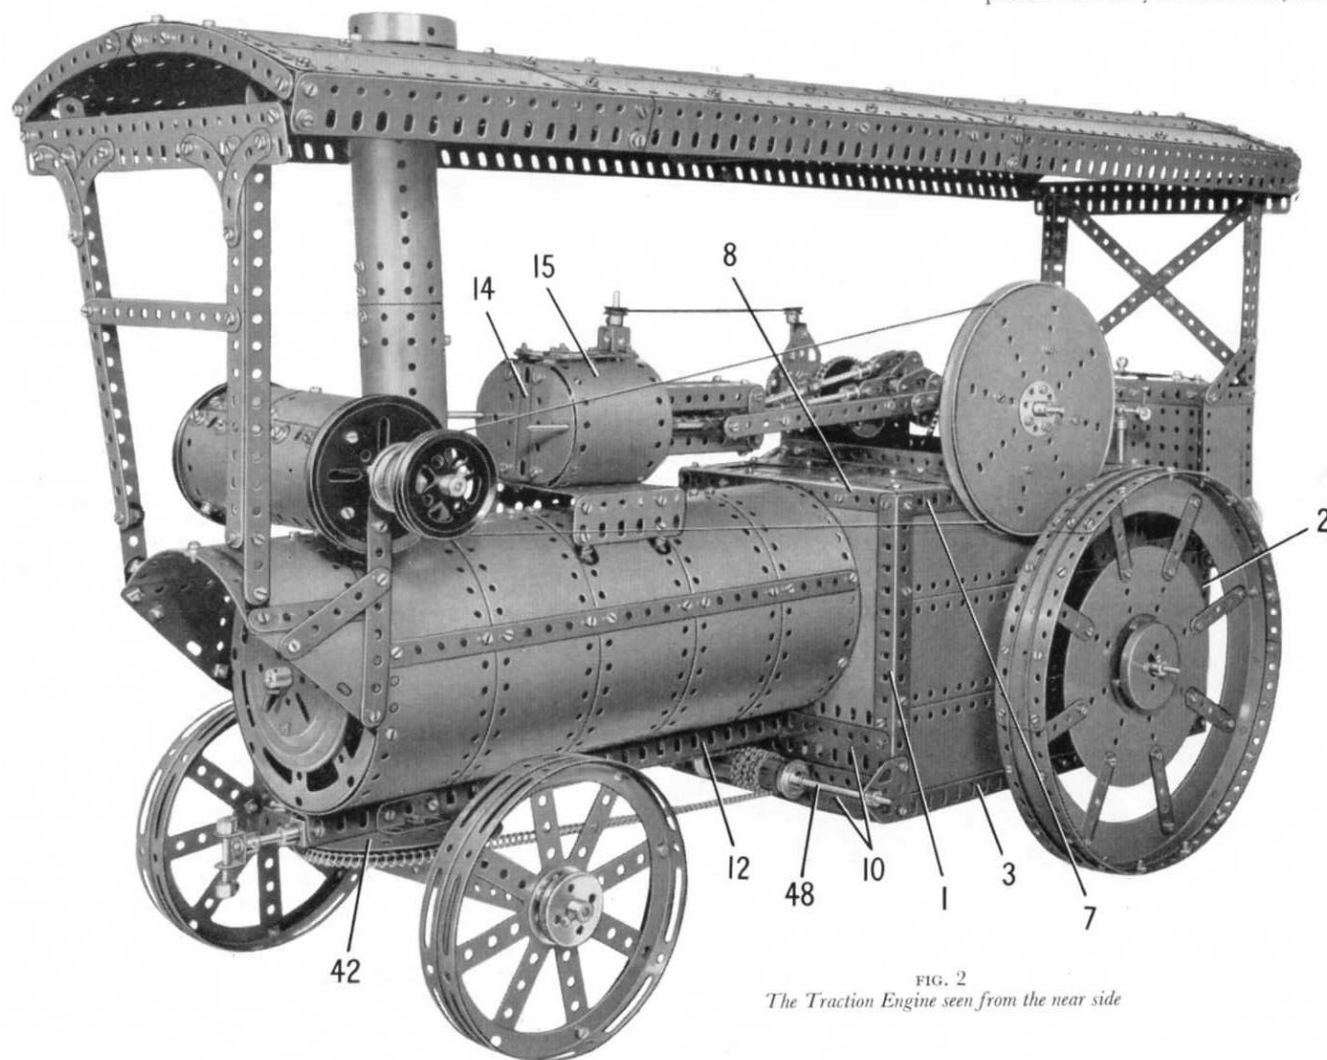

FIG. 2
The sides are connected together at the front by a  $7\frac{1}{2}$ " Angle Girder (8) (Fig. 6), and a similar Girder (9) (Fig. 4). The front is partly filled in by a  $5\frac{1}{2}$ "  $\times$   $2\frac{1}{2}$ " Flexible Plate placed vertically at each side, and by two  $7\frac{1}{2}$ " Flat Girders (10) (Fig. 2).
The boiler is built up on two  $12\frac{1}{2}$ " Angle Girders bolted together to form a channel section girder (12). The boiler consists of five built-up plates, each made from a  $12\frac{1}{2}$ "  $\times$   $2\frac{1}{2}$ " Strip Plate and a  $5\frac{1}{2}$ "  $\times$   $2\frac{1}{2}$ " Flexible Plate bolted end to end and curved to shape. A  $12\frac{1}{2}$ " Angle Girder is fixed inside the boiler diametrically opposite to the girder (12) and two  $12\frac{1}{2}$ " Strips are bolted along the sides. The front and rear ends of the boiler are Hub Discs, but before the front is fixed in place the rear Hub Disc should be bolted to the Girders (8) and (9) of the body (Figs. 2 and 4). At the front the Flanged Disc of a Ball Thrust Bearing is bolted to the Hub Disc, and a Threaded Pin is fixed in a Threaded Boss that is mounted on a  $\frac{1}{2}$ " Bolt.
### The Cylinder Unit (Figs. 2 and 3)
The front end of the cylinder block is made from a  $2\frac{1}{2}" \times 1\frac{1}{2}"$  Flexible Plate (14) (Fig. 2) fitted along its longer edges with Semi-Circular Plates, and the rear end is formed by two Semi-Circular Plates. The ends are joined together by four  $2\frac{1}{2}" \times \frac{1}{2}"$  Double Angle Strips, and a  $4\frac{1}{2}" \times 2\frac{1}{2}"$  Flexible Plate (15) is curved to shape and bolted to the Double Angle Strips on each side. The lower pair of Double Angle Strips is bolted to the Flanged Plate (13). The top edges of the Plates (15) are connected to the Double Angle Strips by  $\frac{3}{8}"$  Bolts placed with their shanks pointing upward. The top of the cylinder block is a  $2\frac{1}{2}" \times 1\frac{1}{2}"$  Flexible Plate edged by  $2\frac{1}{2}"$  and  $1\frac{1}{2}"$  Strips, and is held on the shanks of these Bolts by further nuts. A Double Bent Strip is fixed to the rear end of the  $2\frac{1}{2}" \times 1\frac{1}{2}"$  Flexible Plate and supports a 2" Rod that forms the governor shaft. The Rod is held in place by a Collar and a  $\frac{1}{2}"$  fixed Pulley.
### The Rear Wheels (Figs. 2 and 4)
### The Front Axle and Steering Assembly (Figs. 2, 4 and 8)
The complete axle is attached to the Toothed Disc of a Ball Thrust Bearing by bolts that secure also a Double Arm Crank. A  $2\frac{1}{2}$ " Rod fixed in the Double Arm Crank is passed through a Bush Wheel and a 4" Circular Plate (42) (Fig. 2), which is bolted to  $1\frac{1}{2}$ " Angle Girders fixed to the girder (12). The  $2\frac{1}{2}$ " Rod passes inside the boiler and is held in place by a Collar.